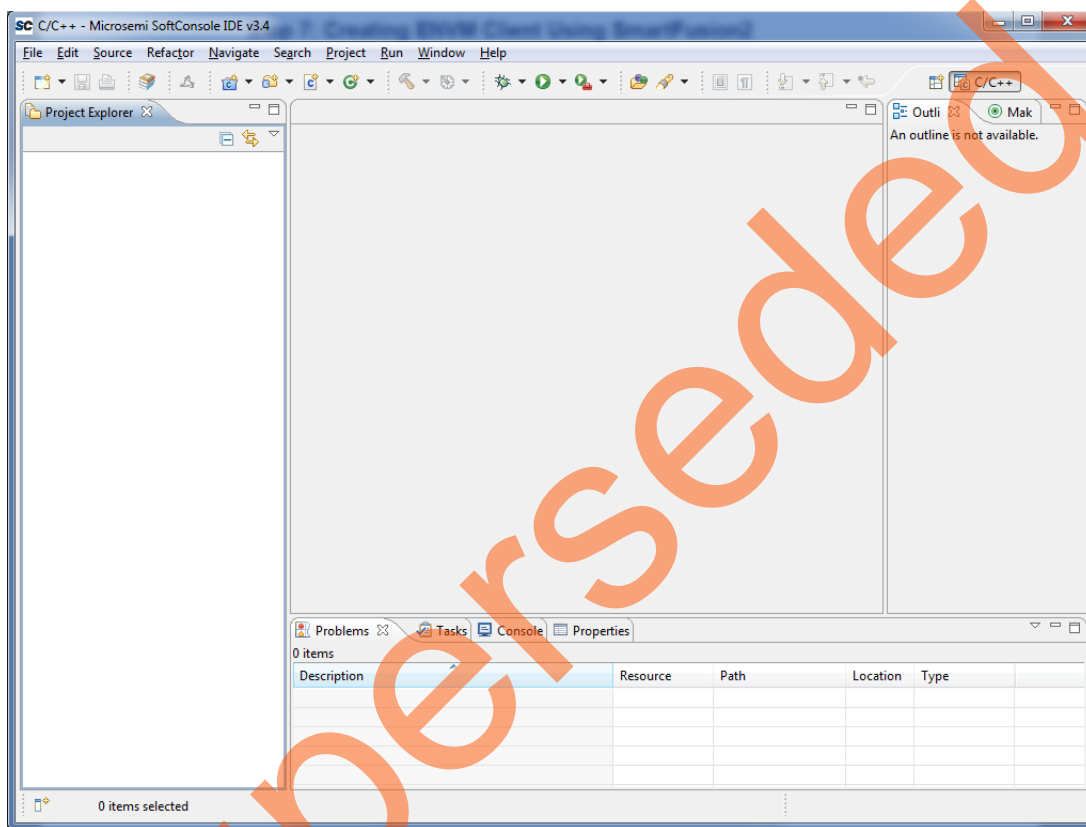

Figure 48 • SoftConsole IDE Project Workspace
1. To build the firmware eNVM client, open the standalone SoftConsole IDE. The **SoftConsoleIDE Project Workspace** window is displayed, as shown in Figure 48.